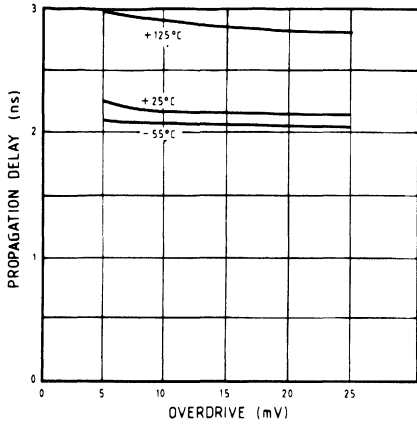

Fig.6 Propagation delay, input to output as a function of overdrive
3. +100mV pulse with -10mV overdrive. See Figs 6 to 8